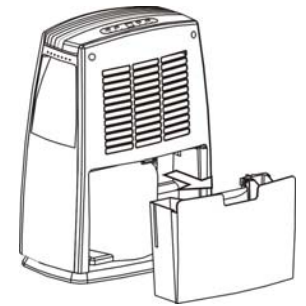

Fig 01
1. Remove the water tank as Fig 01. and empty it.